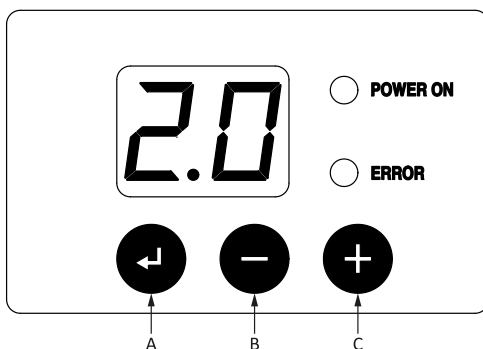

Fig. 19
8.18 Setting of Unit see Fig. 19